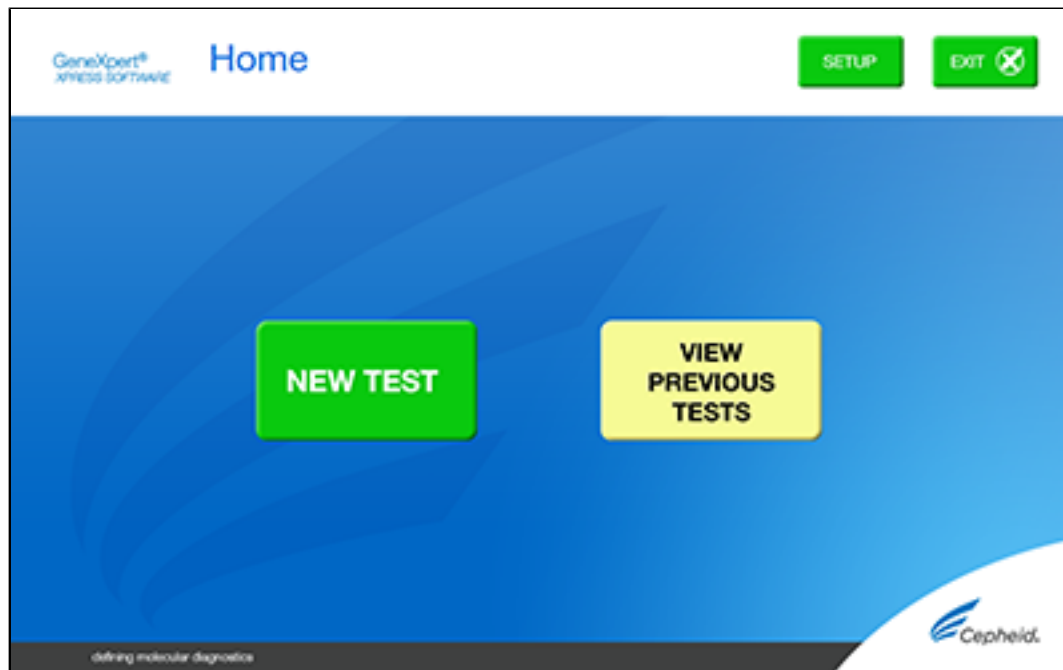

Figure 12. VIEW PREVIOUS TESTS button on Home Screen
1. Touch the **VIEW PREVIOUS TESTS** button on the **Home** screen shown in Figure 12.